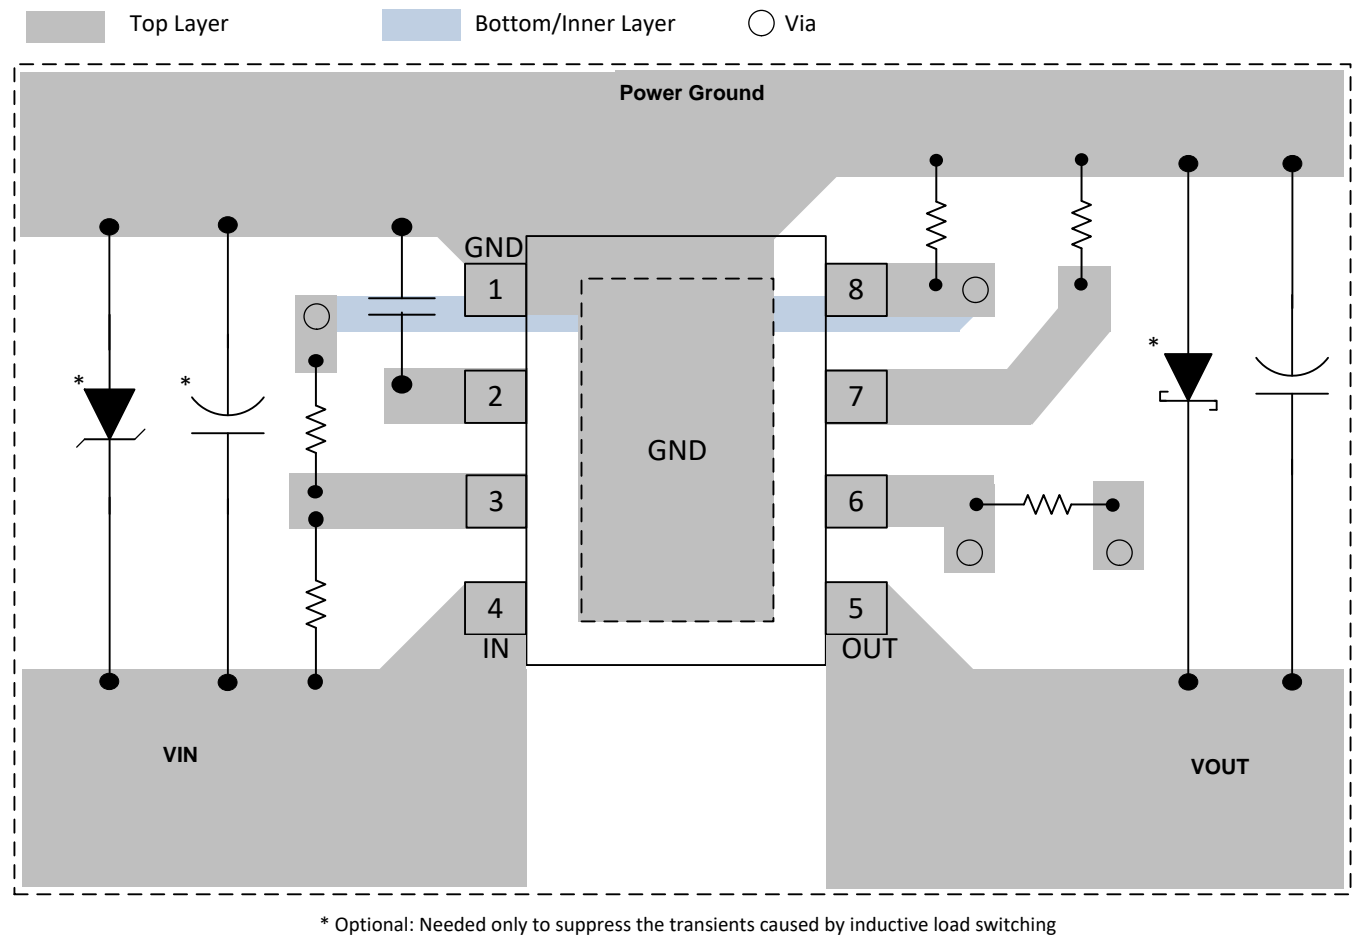

Figure 63. TPS2596xx Layout Example
- The optimal placement of the decoupling capacitor is closest to the IN and GND terminals of the device. Care must be taken to minimize the loop area formed by the bypass-capacitor connection, the IN terminal, and the GND terminal of the IC. See Figure 63 for a PCB layout example.
- Obtaining acceptable performance with alternate layout schemes is possible. The Layout Example shown in Figure 63 has been shown to produce good results and is intended as a guideline.